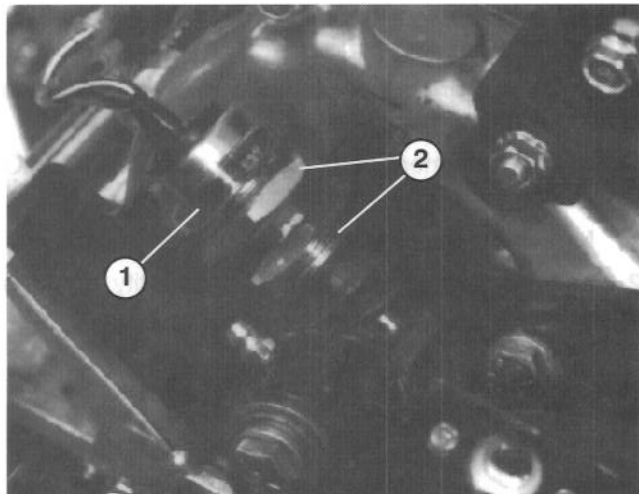

Figure 41
2. Loosen (2) switch mounting nuts (Fig. 41) and move switch until switch plunger is depressed $.18 \pm .06$ " (switch closed).